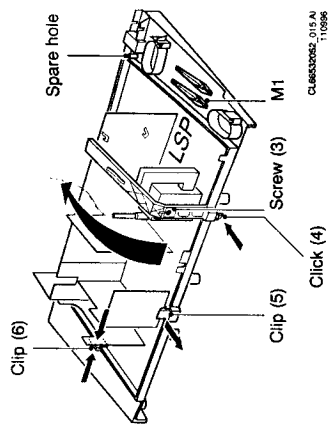
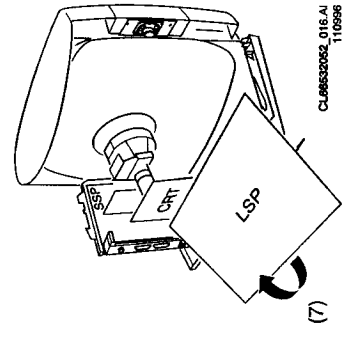

Figure 4.3
Figure 4.4
- LSP component side (Figure 4.3)**
2. Remove screw (3) from the LOT bracket.
3. Remove the bracket by releasing click (4) and pulling the bracket upwards.
4. Release clicks (5) and (6).
- LSP copper side with table/workbench (Figure 4.4)**
4. Turn the LSP underneath the CRT panel (keep cable S15/L15 UNDER the audio module) as indicated by the arrow (7).
1. Break the service pin (marked M1 - see Figure 4.3) from its position at the right hand side of the bottom plate.